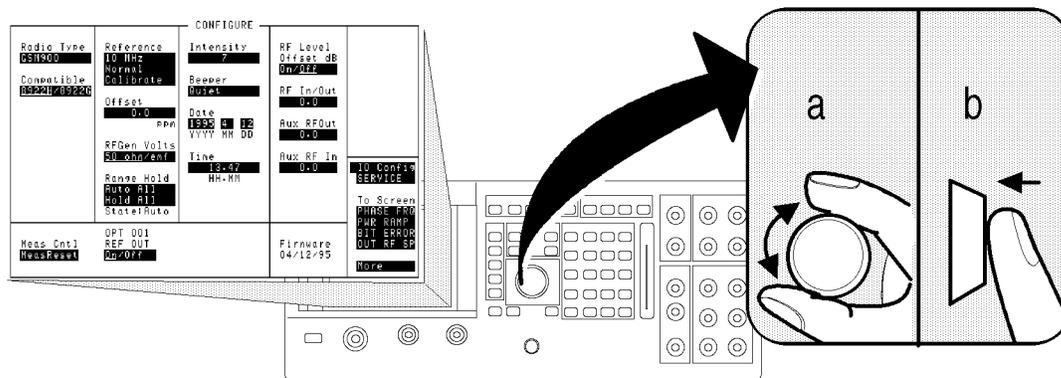

Figure 1-3 Access CONFIG Screen
- Moving to the **CONFIG** field in the bottom right-hand corner of the Cell Control screen, (the first screen that appears after power-up or after selecting **PRESET**). Rotate the cursor control knob (refer to “a”, see Figure 1-3 on page 1-6) until you are on the CONFIG field.
- Selecting the **CONFIG** field by pushing the cursor control knob (diagram “b”, see Figure 1-3 on page 1-6).